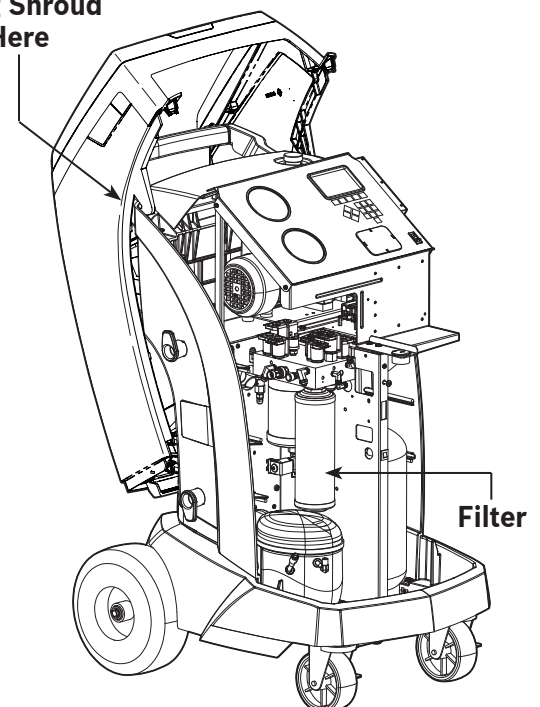

Figure 9
3. Hang the shroud on the back of the machine as shown in Figure 9.
6. Install the new filter by threading it clockwise into place. Verify the filter is positioned correctly as shown in Figure 9. Tighten the filter to 20 Nm.